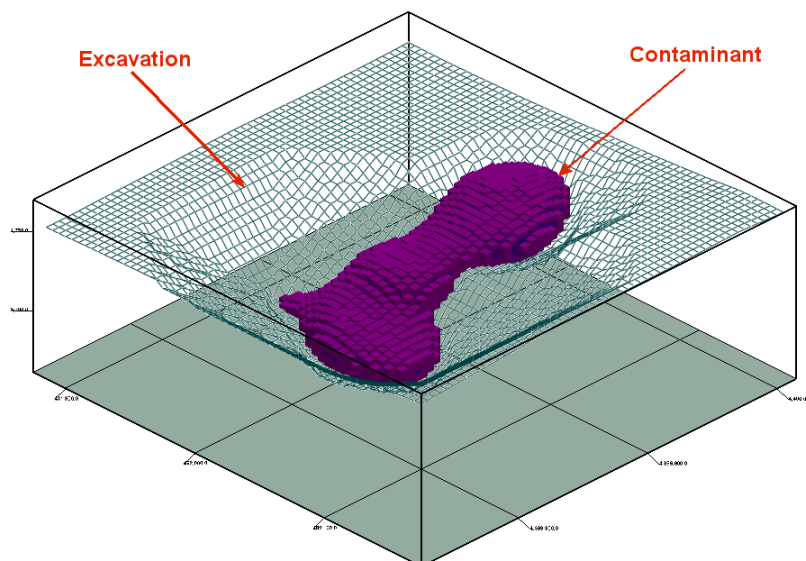

Figure 96
1. A three-dimensional diagram (Figure 96) depicting the excavation pit and the contaminant that will be removed.